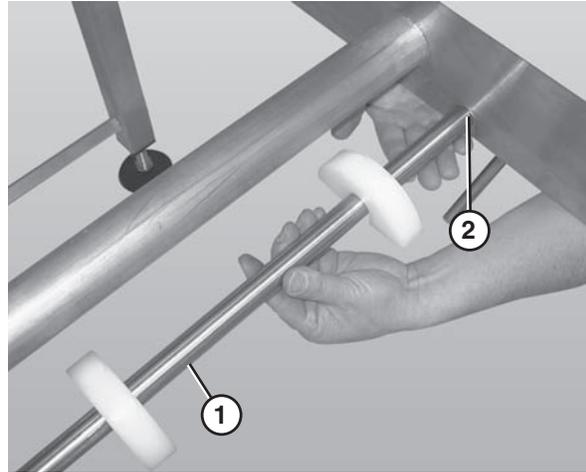

Figure 56
1. Remove the belt returns by pushing up on the return shaft (**Figure 56, item 1**) and sliding it through the large hole (**Figure 56, item 2**) in the frame.
2. Lower the opposite end of the return shaft (**Figure 56, item 1**) and slide it out of the frame.